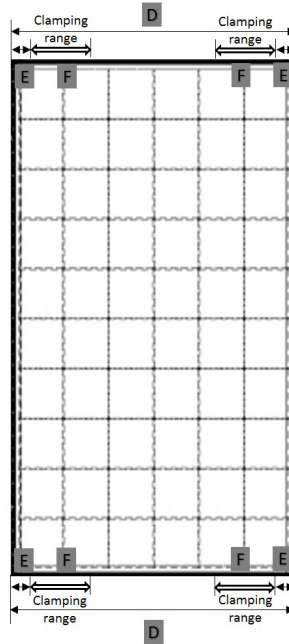

Figure 5: Short side clamping range on modules SPVxxx-60MMJ
- For mounting the supporting rails on the short side of the frame , slide bolts through the rail grooves next to the 4 clamps locations. The module may be clamped only in the permitted clamping range . For the exact locations refer to area F in *Figure 5* and *Table 3*.